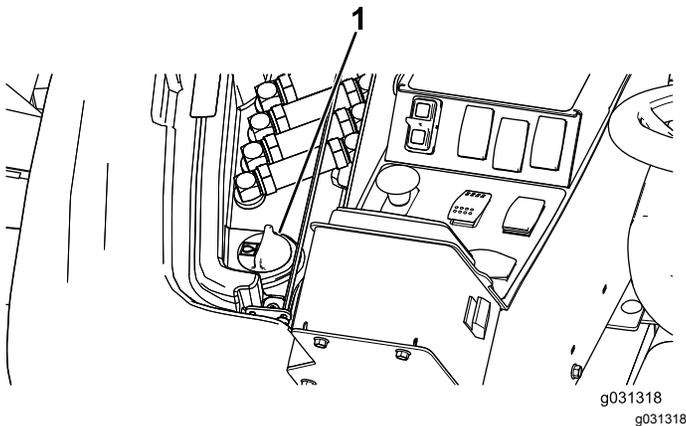

Figure 133
2. On the right side of the machine, raise the access cover to expose the hydraulic-tank cap (Figure 133).
3. Clean the area around the filler neck and cap of the hydraulic tank (Figure 133).